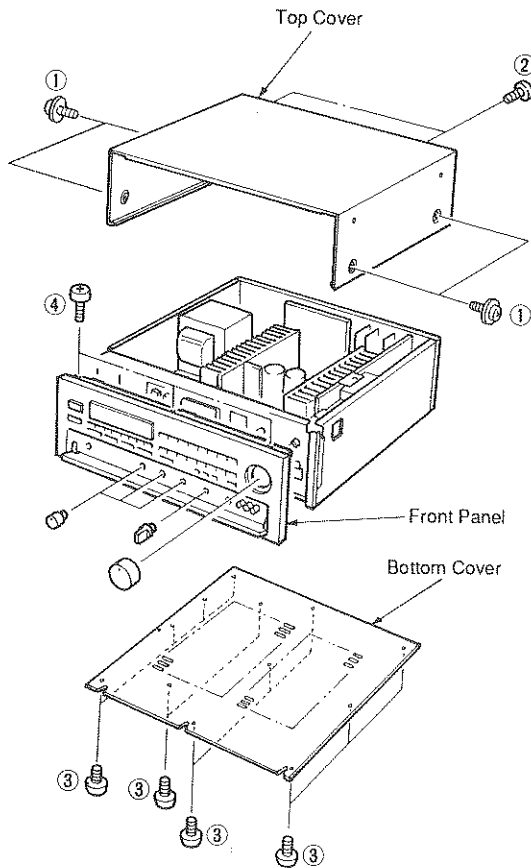

Fig. 1
- a. Remove 4 screws (①) and 2 screws (②) and then remove the top cover in Fig. 1.
- a. Remove 12 screws (③) and then remove the bottom cover in Fig. 1.
- a. Remove 5 knobs in Fig. 1.
- b. Remove 3 screws (④) and then remove the front panel in Fig. 1.